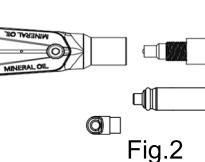

Fig.2
- ③ After the oil pipe passes through the inner pipe of the frame, use a 1.5mm hex wrench to remove the quick release nut, and use an M6 hex wrench to remove the oil stopper of the brake lever. (Fig. 2)